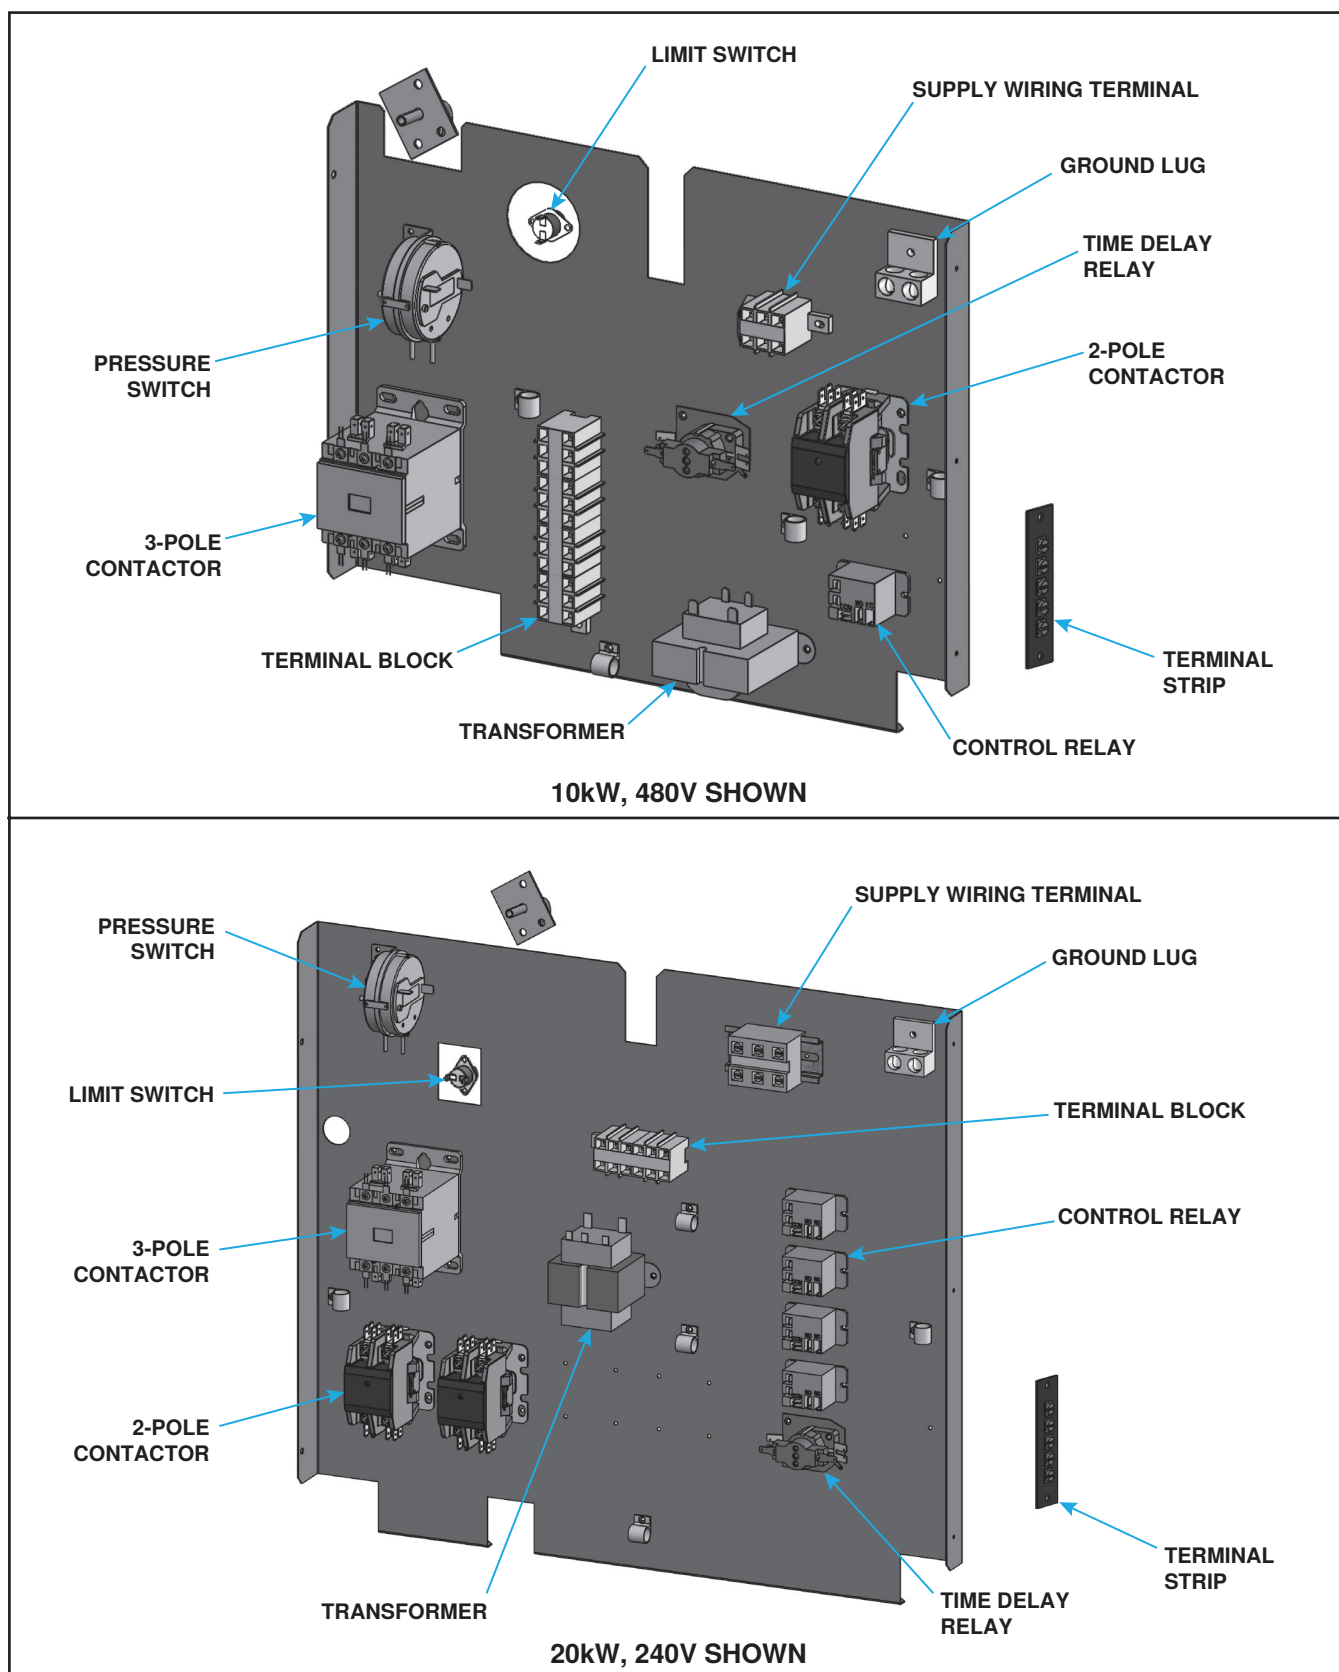
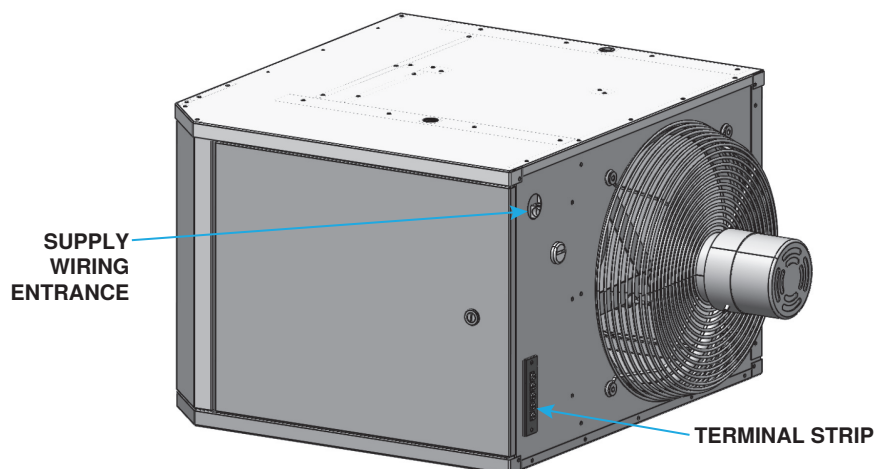

Figure 6. Typical Control Panels
Figure 7. Supply Wiring Entrance and Control Connection Terminal Strip
- (1) Loosen terminal screws T1, T2, and T3 on 3-pole contactor (see Figure 6) terminals.
- (2) Disconnect black wires from T1 and T2 terminals and connect them to T3 terminal.
- (3) Tighten all terminal screws.
3. Route supply wiring through entrance shown in Figure 7 and connect to supply wiring terminal block shown in Figure 6).
- The terminal strip for 24V control connections is located on the outside of the cabinet at the back of the unit, as shown in Figure 7. The strip has five terminals: C, R, G, W1, and W2. The thermostat connections are the C (optional), R, G, W1, and W2 (optional) terminals.
All units are equipped with a normally-open automatic-reset air proving pressure switch (see Figure 6) that senses air pressure provided by fan operation. The switch is factory-set and is non-adjustable. When the setpoint is satisfied, the switch allows electric supply to the heating elements. This safety device provides protection in the case of fan motor failure or lack of airflow due to a restriction at the inlet or outlet.
All units are equipped with a normally-closed temperature-activated, automatic-reset high temperature limit switch (see Figure 6). The switch is factory-set and is non-adjustable. If the setpoint is reached, the switch interrupts the electric supply to the heating elements. This safety device provides protection in the case of fan motor failure or lack of airflow due to a restriction at the inlet or outlet.